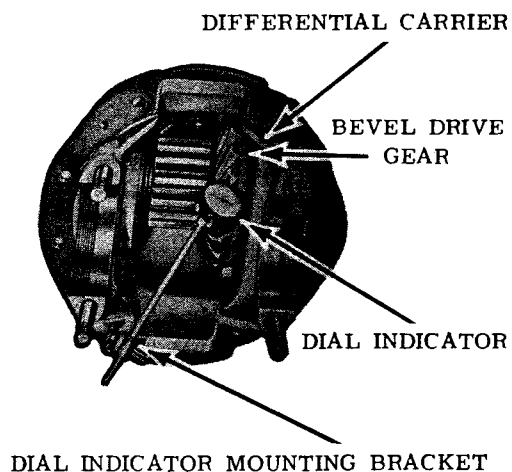

Figure 45. Checking bevel gear backlash.
j. Install dial indicator on differential carrier as shown in figure 45 to check bevel pinion gear and bevel drive gear backlash. While holding the yoke, rotate the bevel gear back and forth as far as possible without moving the yoke, and at the same time note the reading on the dial indicator. The correct backlash is 0.006 to 0.012 inch. Backlash is adjusted by removing or adding shims (G) to move the gears closer or away from each other.